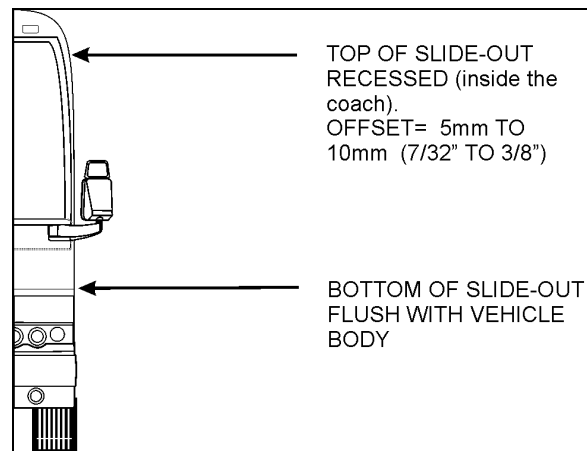

FIGURE 23: TILT ADJUSTMENT
5. Using levelling screw 3, adjust the tilt in order to have the top of the slide-out recessed between 5mm and 10mm ($7/32''$ and $3/8''$) (see FIGURE 23).